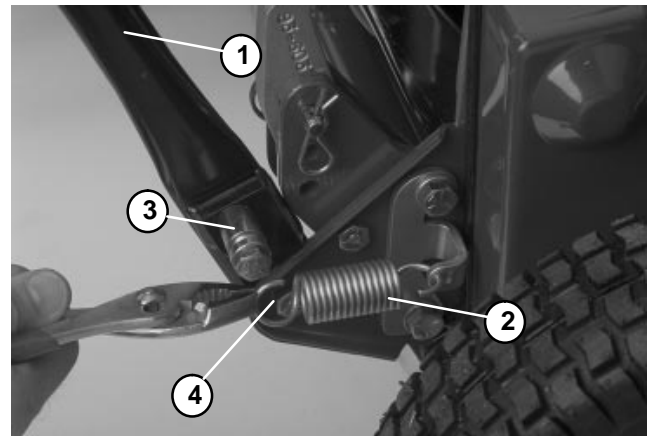

Figure 15
3. Use a pliers to remove the extension spring from the spring retainer (Fig. 15).
4. Pivot kickstand up against the handle and hold there. Use a pliers to reinstall the extension spring to the spring retainer (Fig. 15).